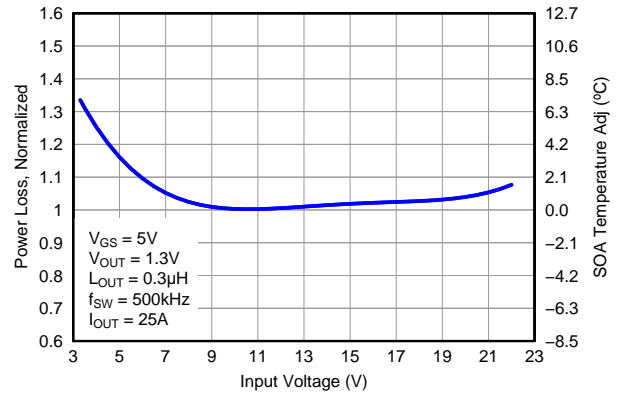

Figure 7. Normalized Power Loss vs Input Voltage
- Normalized Power Loss for input voltage ≈ 1.05 (Figure 7)
- SOA adjustment for input voltage $\approx 1.05^\circ\text{C}$ (Figure 7)